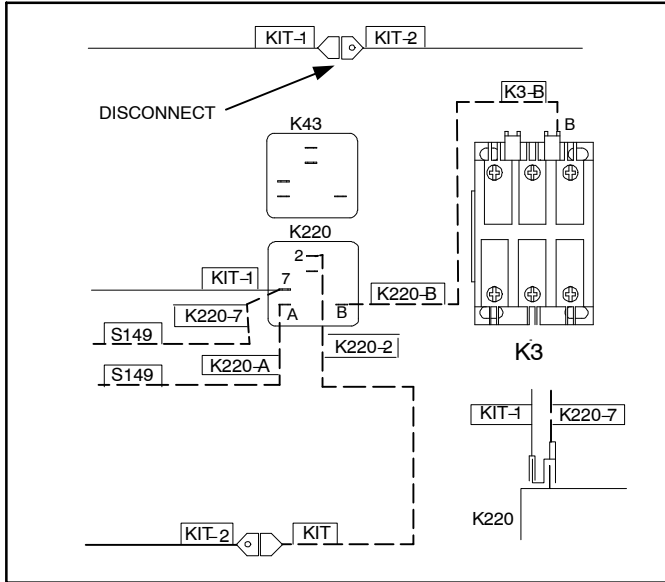

Figure 7. Installing Float Switch Kit Only
- 5.2. Make wiring connections according to figure 7 using harness provided in kit
- 5.2.2. Connect factory wire marked **KIT-1** to kit harness wire marked **K220-7** receptacle / tab combination that was just connected to relay in step 5.2.1. (see figure 7).
- 5.2.4. Make all other wiring connections as illustrated in figure 7 and per wire markings. Also see provided unit wiring diagram.